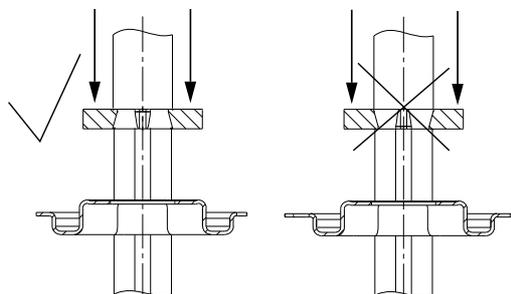

Fig. 19 Fitting the stop ring
- Fit O-ring (pos. 107) into the rotating shaft seal part (pos. 104). See section 3. *Tightening torques and lubricants*
- Fit retainer (pos. 111) and stop ring (pos. 111a). See fig. 19.